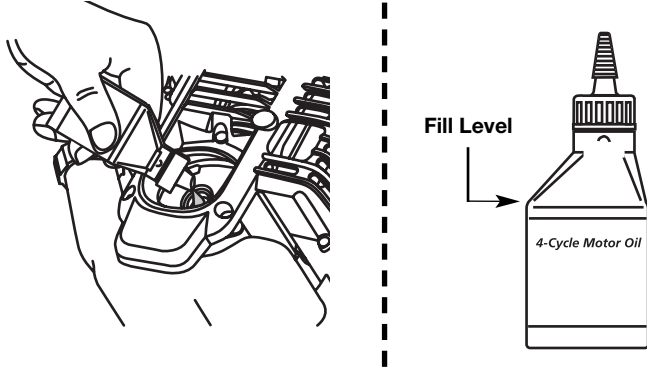

Fig. 22
**NOTE:** Use the bottle and spout saved from initial use to measure the correct amount of oil. The top of the label on the bottle measures approximately 3.04 ounces (90 ml) or 3/8 cup (Fig. 22). Check the level. See Checking the Oil Level. If the level is low, add a small amount of oil and recheck. Do not overfill (Fig. 22).